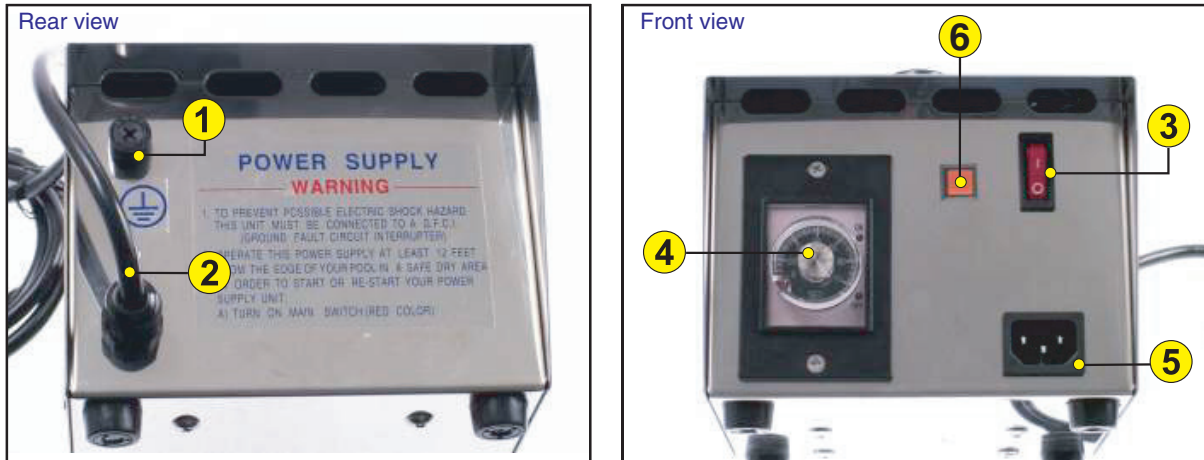

Figure 1.
A. Power Supply (Transformer) with Two-Hour Automatic Shut-Off, **Figure 1.**
This cleaner has an internal timer, which will automatically shut off the cleaner after 2 hours of operation. However, the Switch will remain in the “ON” position. To re-start the cleaner for another cycle, switch the Power Supply “OFF”, and then switch it back to the “ON” position and press the Reset Button. See Figure 1.